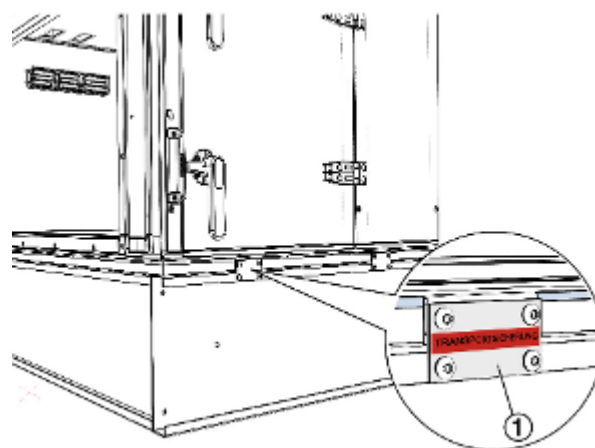

Fig. 10: Transport protection device on units with Anti-Vibration Baseframe
- 1 ▶ Unscrew screws on the transport protection devices (Fig. 10 /1) using tool (TX30) and remove the metal sheets.